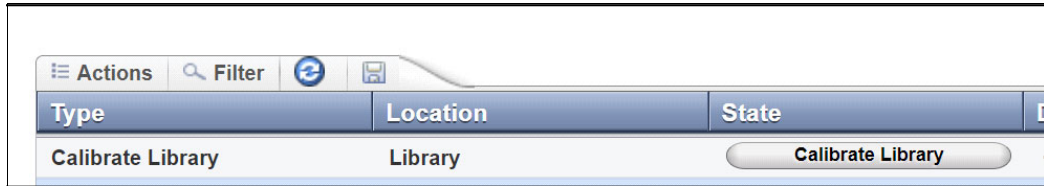

Figure 5-3 Calibrate Library option
2. Calibrate the library by selecting **Actions > Calibrate Library** (Figure 5-3). It can take 11 minutes. You can Monitor the progress in the Tasks page.